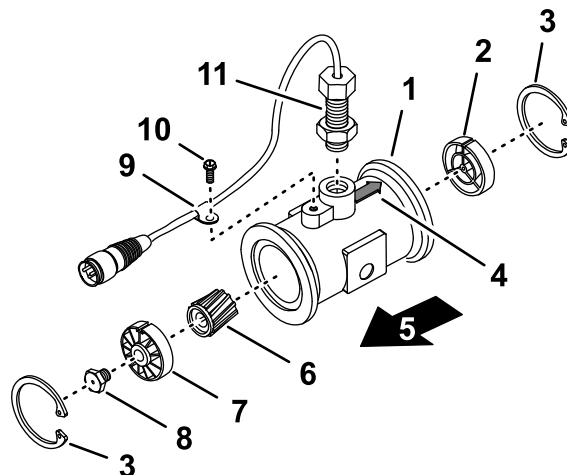

Figure 112
3. Remove the retainer ring on the upstream side (Figure 112).